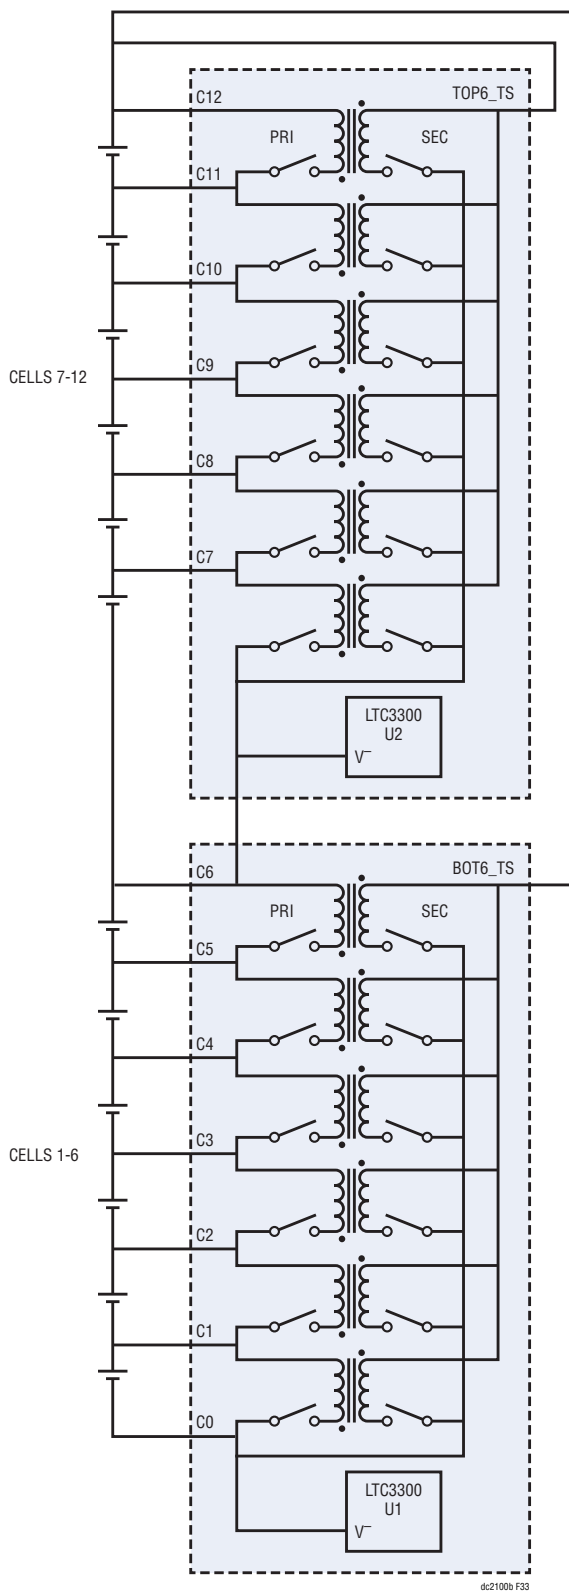

Figure 33. Connection of a DC2100B to a Twelve-Cell Battery Stack
When balancing fewer than twelve cells, one of the set-up configurations shown in Figure 47 through Figure 54 must be employed to ensure an absent cell location is not interpreted as an undervoltage fault by the GUI. For cases with more than seven cells, but fewer than twelve cells, there is a bias towards placing more (or the same number of) cells on the top LTC3300-1 than on the bottom LTC3300-1. To understand this allocation scheme, consider the case of a 12-cell balancer in Figure 33. During balancing, charge is exchanged between individual cells through the primary of a flyback converter to a stack of the same cells through the converter secondary. Within a group of six converters controlled by a single LTC3300, the secondary of the converters are all in parallel. For the lower six converters, the secondary is connected between the bottom of the stack and positive end of cell 12. Thus, during balancing, charge is exchanged between one (or more) of cells 1-6 and the entire stack of 12 cells. However, for the upper six converters the secondary return is connected to C6. Consequently, for the top six cells, balancing exchanges charge between one or more of the top cells and a stack composed of only the top six cells. This constraint drives the system designer towards putting as many cells as possible on the top LTC3300 to maximize the stack size seen by the upper converters. At the same time, the LTC3300 requires at least 9V between C6 and V^- for proper operation. Practically speaking, this sets a three-cell minimum for each LTC3300.
5. GRAPH VIEW WINDOW – FIGURE 33